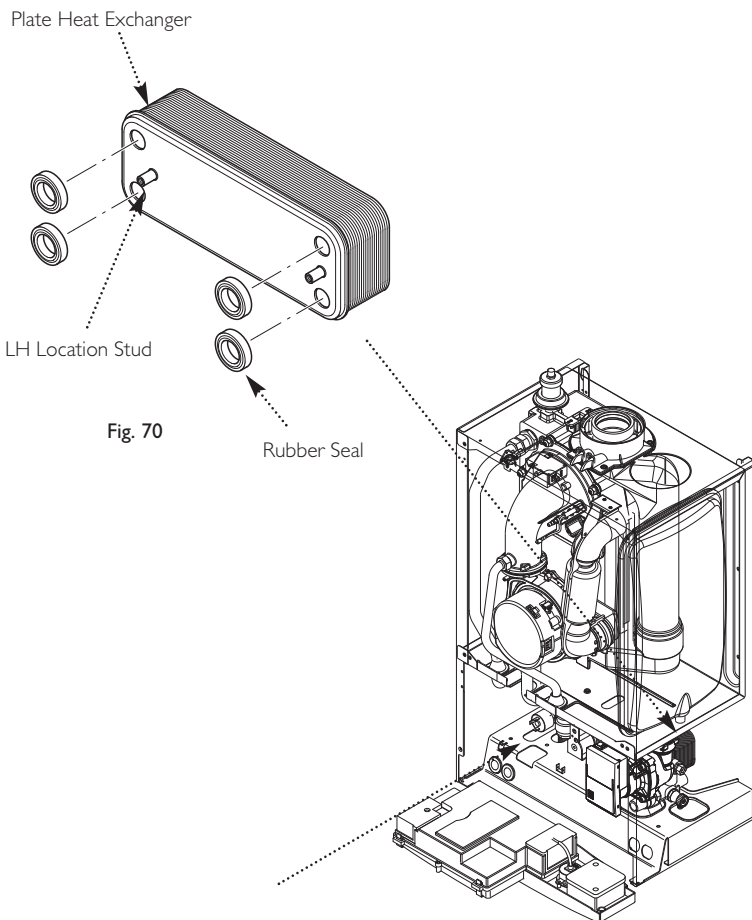

Fig. 70
13.18 Plate Heat Exchanger (Fig. 70)